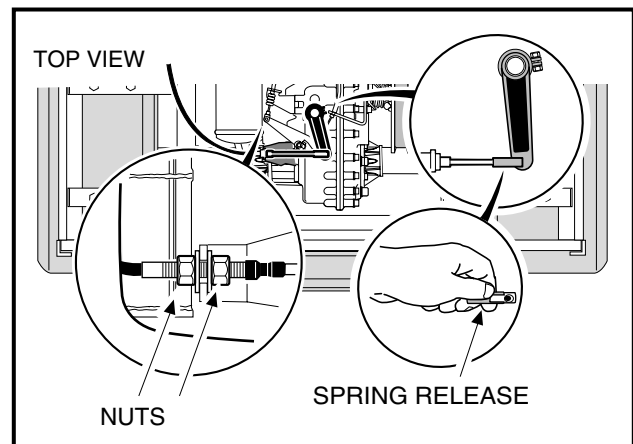

Figure 16-17 Shifter Cable
- 5.8. Loosen nuts securing shifter cable to the mounting bracket and disconnect the shifter cable rod end from the shifter arm on the unitized transaxle. Remove the cable from the cable mounting bracket (**Figure 16-17, Page 16-9**).